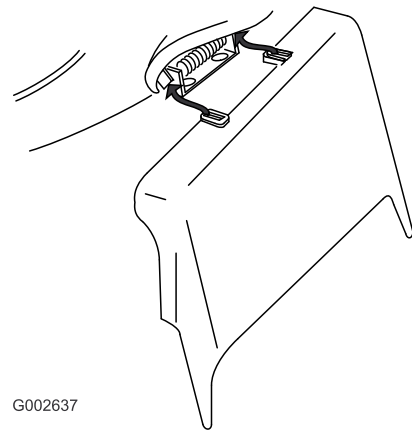

Figure 36
3. Install the side-discharge chute and close the door onto the chute (Figure 36).